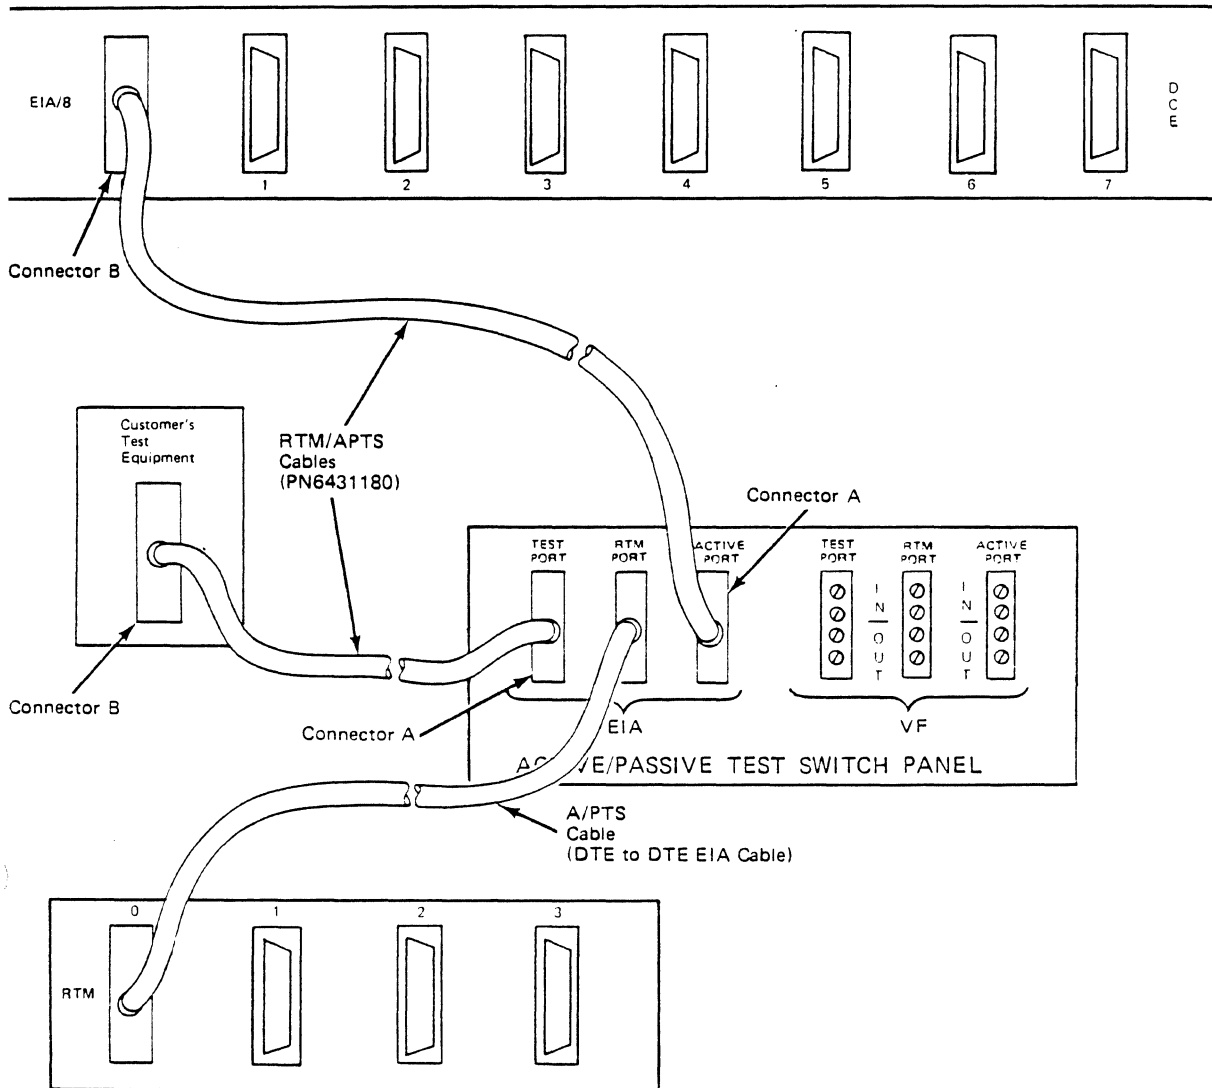

Figure 8-14. Active/Passive Test Switch Connections
1. Connect the RTM/A/PTS adapter cable's (PN 6431180) connector (designated "B") to a DCE I/O port on the Matrix Switch I/O Port Connector Panel (Figure 8-14.)